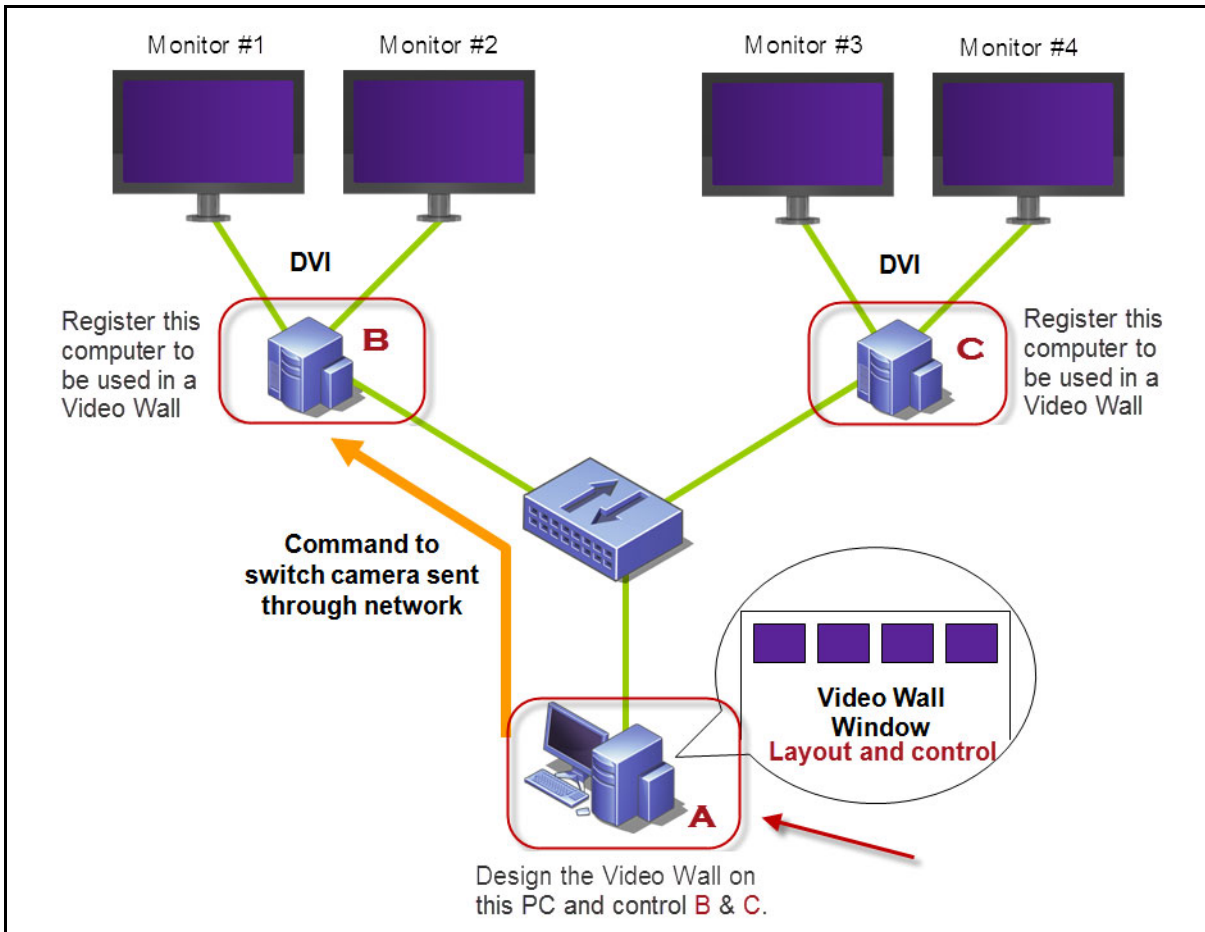

Figure 55. Use computer A to design the video wall
6. Select the name of the video wall and click **Open**. A message in the layout field appears, indicating that you must now select the monitors be used in the video wall you plan to design. Using the example diagram (Figure 55 on page 91), you would select B-Monitor 1 or 2 or C.-Monitor 3 or 4.
1. Launch Symphony Client on the computer where you designed the Video Wall layout. (For example, in Figure 55 on page 91, that would be computer A.)
Important: At this point, you are now in control of the display on other monitors. (Using the example diagram in Figure 55 on page 91, you would be in control of the layout on Client B or C.)
- This layout is saved on the remote computer (client) and NOT on the controlling computer. Using the example diagram (Figure 55 on page 91), the layout would be saved on computer B or C (if C is online) but not on A. Each connected (registered) video wall client saves (or loads) its client layout on its own machine.